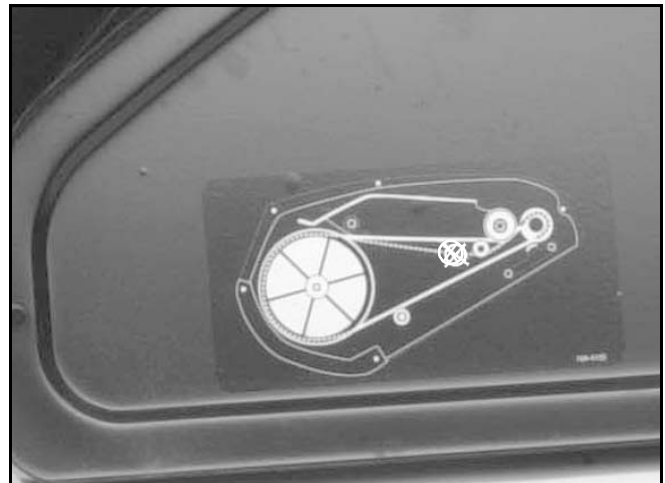

Figure 41
3. Before you remove the belt, note the routing and if the belt is damaged. There is a belt routing decal on the inside of the belt cover and a copy of that decal in the owners manual (Figure 41). If the belt was misrouted or has jumped the pulleys, it will likely be damaged. A damaged belt should be replaced.